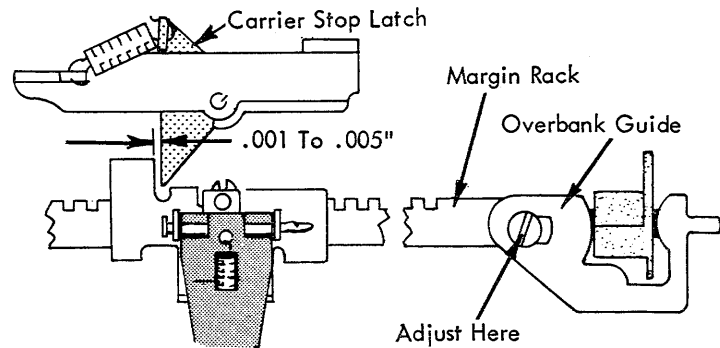

FIGURE 176. Margin Rack Overbank Guide
1. Margin Rack Overbank Guide - With the carrier resting at the left hand margin, adjust the overbank guide (Fig. 176) left or right on the margin rack to obtain .001" to .005" clearance between the margin stop and the margin stop latch on the carrier when the margin rack is in its rest position (Fig. 176). When observing this clearance remove the floating action of the margin stop latch by pulling the stop latch to the right with a spring hook.